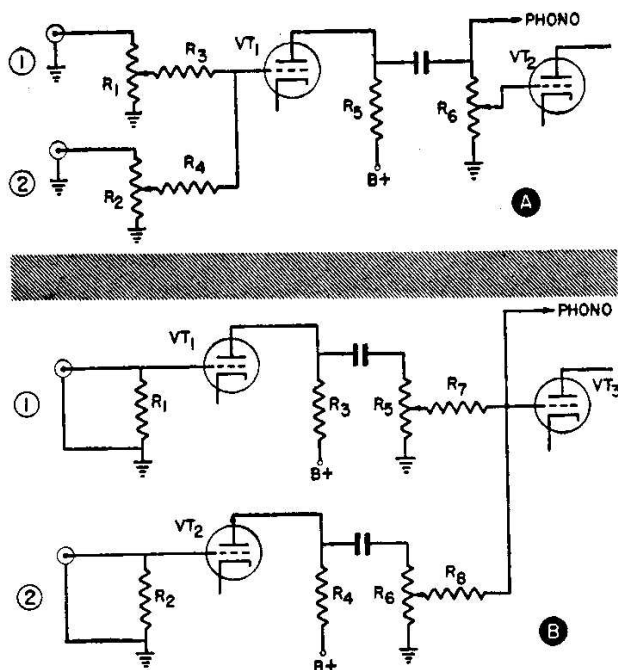

FIG. 18. Two kinds of resistance mixing circuits.
**Resistance Mixing.** Fig. 18 shows two examples of what is known as resistance mixing. In Fig. 18A we have two microphone channels, each feeding into its own individual level control  $R_1$  or  $R_2$ . By adjusting these controls individually, we can adjust the output from the corresponding channel to any desired level. Thus, it is possible to cut one off and the other one on, then to fade from the one that is on to the other one. Or, if desired, they may both be fed in at the same time at some predetermined level. From these controls, the signal goes through preamplifier tube  $VT_1$  and then is resistance coupled to amplifier tube  $VT_2$ .
**Phonograph Channels.** It is necessary to control the outputs of the phonograph-record players just as it is the outputs of microphones. If the system uses a master volume control like those shown in Figs. 18 and 19, it can be used to set the volume level. However, there is usually a separate control in each phonograph channel so that the average level can be set to correspond somewhat with the outputs from the microphone channels. Such a separate control is also necessary if phonograph music is to be used in the background behind programs